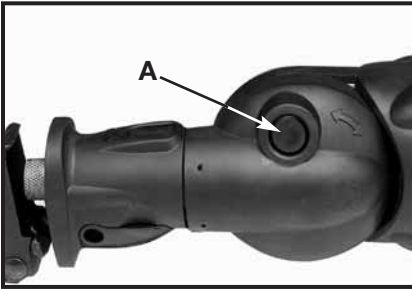
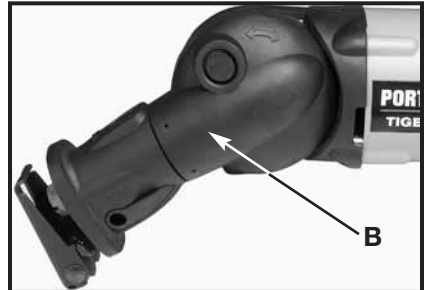

Fig. 6
Fig. 7
3. To rotate the gear housing, depress lock button (A) Fig. 6. Hold the button depressed while moving the gear housing up or down to the desired position or angle. Then release the lock button and continue to move the gear housing until the lock button snaps into the desired detent position (B) Fig. 7.